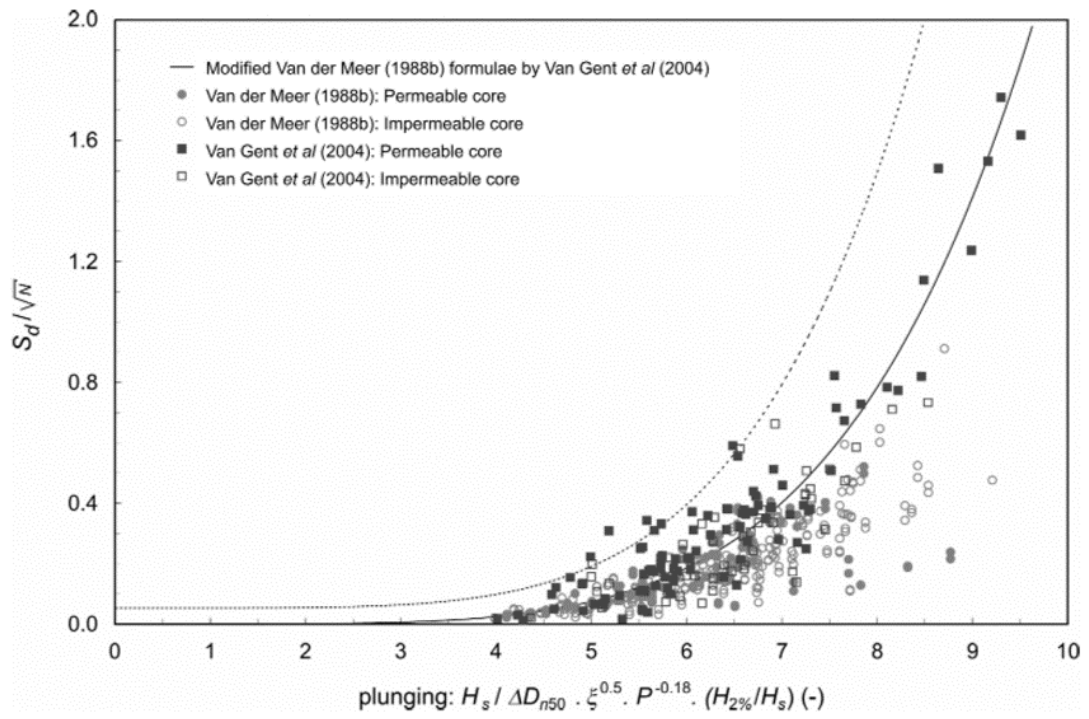

Figure 2: Data from Van der Meer (1998) in deep water and Van Gent *et al.* (2004) in shallow foreshores, both for plunging waves.
2.7 Figure 2 shows experimental data from very shallow foreshores (Van Gent; squared data points) and experimental data from deep water conditions (Van der Meer; circle data points), both for plunging waves. Both the best fit line (solid) and 5% exceedance line are shown.